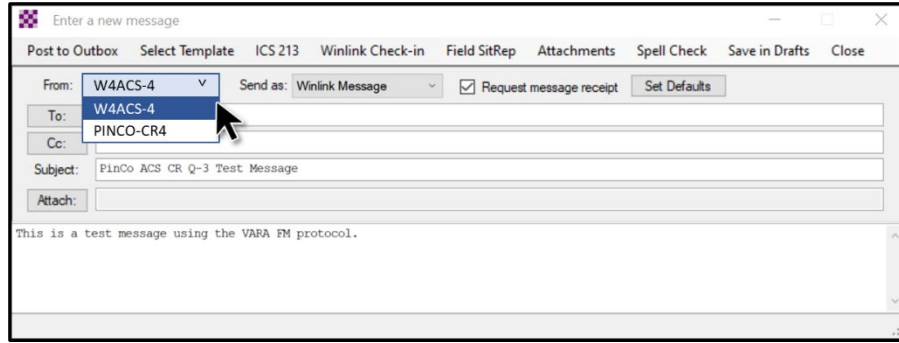

Figure 11. Winlink Call Sign Selection
- (1) From: Use the pull-down menu to select the **Winlink call sign** for the unit under test. Refer to Table III for call sign information and Figure 11 for call sign selection window location.
- (2) Send as: Winlink Message.
- (3) Request message receipt: Check this box.
- (4) To: W4ACS
- (5) Subject: PinCo ACS CR Q-3 Test Message
- (6) Message text: This is a test message using the VARA FM protocol and the Command Runner amateur radio call sign.
- (1) From: Use the pull-down menu to select the **Winlink Tactical Address** for the unit under test. Refer to Table III for Tactical Address information and Figure 11 for call sign selection window location.
- (4) To: PINCO-EOC
- (6) Message text: This is a test message using the Packet protocol and Command Runner Winlink Tactical Address.